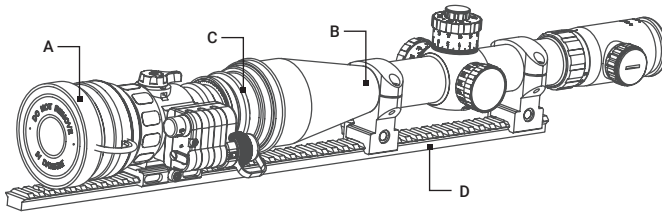

FIGURE 2-3. COMANCHE-22 ON A PICATINNY RAIL IN FRONT OF A DAY SCOPE
Figure 2-3 shows the Comanche-22 (A) and a day scope (B) installed with the light suppressor (C) on a Picatinny/Weaver rail (D).